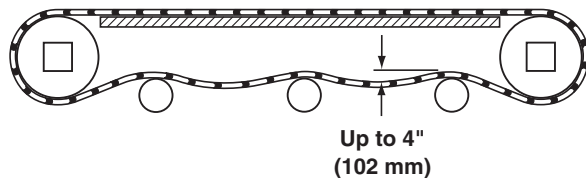

Figure 40
7. Check belt sag by measuring from the top of the return (Figure 40).